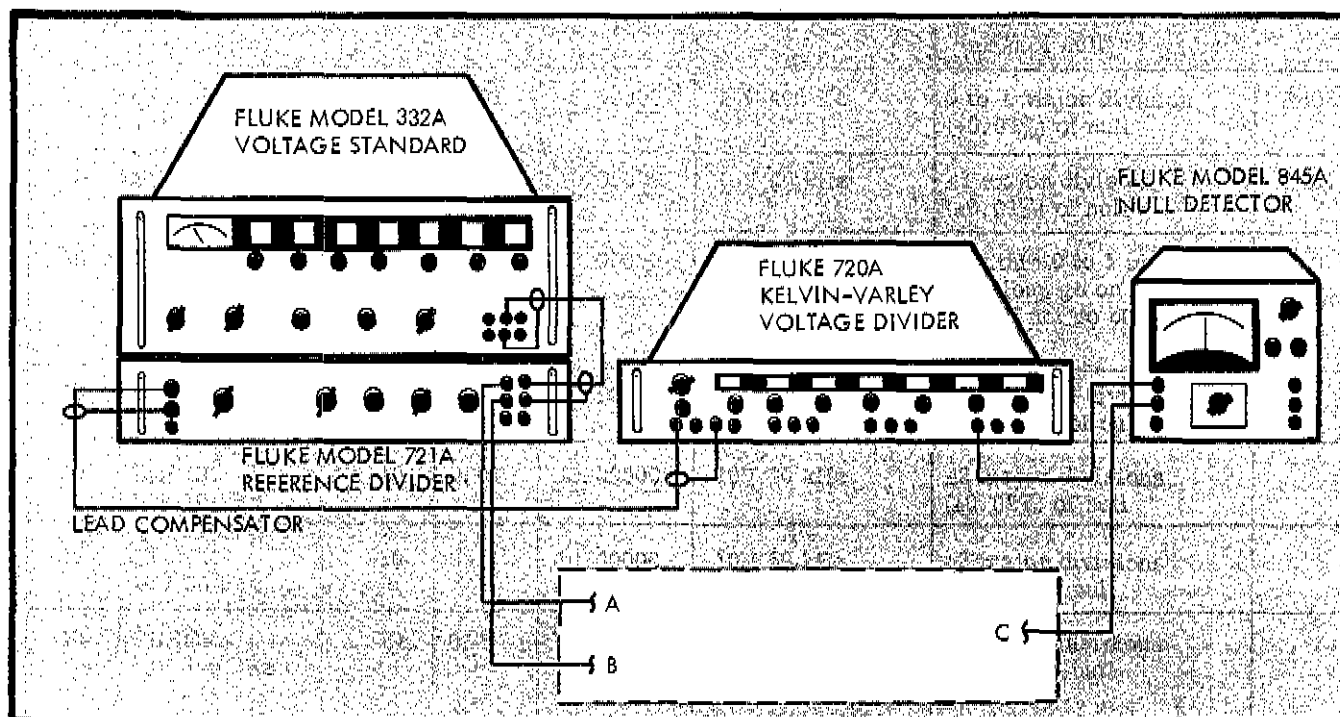

Figure 4-13. EQUIPMENT CONNECTIONS FOR EVALUATING AND CALIBRATING THE INTERNAL KELVIN-VARLEY DIVIDER
- Unsolder high input wire (white) from polarity switch and connect lead A of Figure 4-13 to high input, lead B to high output, and lead C to input-output common.
e. Connect equipment as shown in Figure 4-13.
h. Connect lead A and C of Figure 4-13 to TP14 and TP16 of Kelvin-Varley board respectively.
- Connect point B of Figure 4-13 to test point that point C is connected to.
- (8) Set 721A Kelvin-Varley Divider dials to 10000000.
- (9) Connect point B of Figure 4-13 to test point that point A is connected to.
- (10) Repeat steps (4), (5), and (8).
- (11) Adjust HIGH BALANCE controls on 721A for a null on 845A. It may be necessary to temporarily reduce sensitivity of 845A to find null point on HIGH BALANCE controls.
- k. Connect point B of Figure 4-13 to TP15.
- (1) Set function switch to VOLTAGE OFF on 721A Lead Compensator.
- (2) Set 845A Null Detector to 30 MICROVOLTS and adjust ZERO control to null meter.
- (3) Set function switch to $R_S > R_X$ on 721A Lead Compensator.